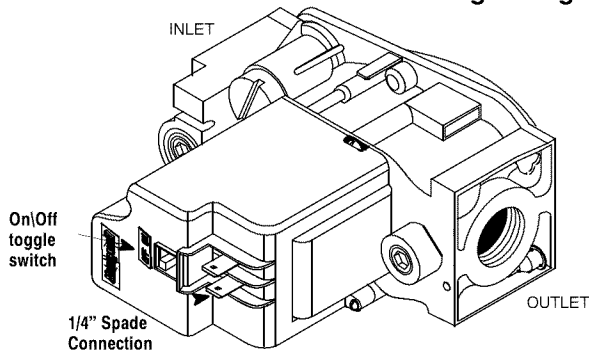

Fig. 3 - Gas Control Valve
3. Remove the burner compartment door by removing the two (2) screws securing the door in front and lifting the door up and outwards. Removing the door will expose the gas control valve knob.
5. Turn the the gas control valve to the OFF position. See Fig. 3.